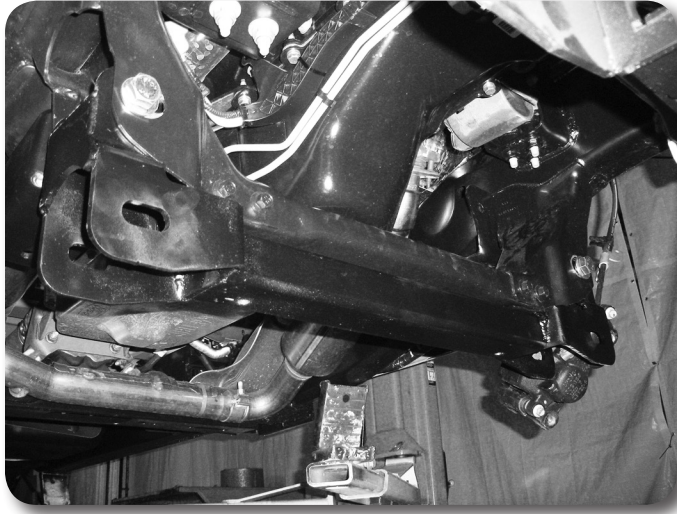

Figure 9
19. Install the new rear crossmember in the rear lower control arm frame pockets and fasten with new 18mm x 150mm bolts and washers. Do not put nuts on at this time. Run bolts from front to rear. Leave hardware loose. Figure 9.